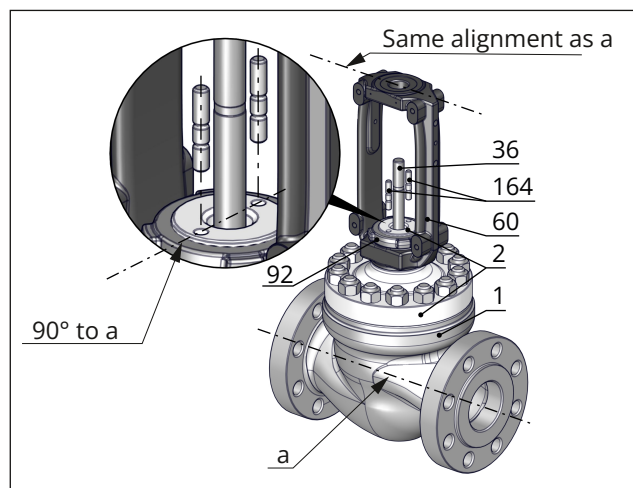

Fig. 33: Alignment of bonnet on the valve body and alignment of yoke on the bonnet
14. Insert the support element (63) (including the pressed-in bushing (7)) upright over the plug stem (36) into the body (1) until it rests on the seating surface inside the body. Use special tool for large nominal sizes.
15. Place a new spiral wound gasket (126) on the support element (63).
16. Insert a new spiral wound gasket (17) into the body (1).
17. Place the valve bonnet (2/21) including yoke (60) from the top over the plug stem (36) on the body (1). Observe the alignment (see Fig. 33). The two boreholes on the top of the bonnet must be at a right angle to the pipeline axis.
18. Press the plug (5) firmly into the seat (4), while fastening down the valve bonnet (2/21) with the body nuts (14). Tighten the body nuts (14) gradually in a crisscross pattern. Observe tightening torques.
9. Place a new spiral wound gasket (17) on the valve body (1). Before inserting the gasket, clean the seating surface and check for damage.
10. Place a new spiral wound gasket (126) on the support element (63) or seat retainer (124). Before inserting the gasket, clean the seating surface and check for damage.
11. Place the valve bonnet (2/21) including yoke (60) from the top over the plug/piston stem (36) onto the body (1). Observe the alignment (see Fig. 33). The two boreholes on the top of the bonnet must be at a right angle to the pipeline axis.
12. Firmly press the plug/piston (5) into the seat (4), while fastening down the valve bonnet (2/21) with the body nuts (14). Tighten the body nuts (14) gradually in a crisscross pattern. Observe tightening torques.
13. Carefully slide the packing parts over the plug/piston stem (36) into the packing chamber using a suitable tool. Refer to the documentation of the spare packing for the correct sequence and alignment of the parts.
14. Screw in and hand-tighten threaded bushing (8).
15. Tighten threaded bushing (8) gradually applying the specified tightening torque.
11. Place a new spiral wound gasket (17) on the valve body (1). Before inserting the gasket, clean the seating surface and check for damage.
12. Place a new spiral wound gasket (126) on the support element (63) or seat retainer (124). Before inserting the gasket, clean the seating surface and check for damage.
13. Place the valve bonnet (2/21) including yoke (60) from the top over the plug/piston stem (36) onto the body (1). Observe the alignment (see Fig. 33). The two boreholes on the top of the
6. Insert the seat retainer (124) (including pressed-in bushing (7)) upright over the plug stem (36) into the body (1) and center them on the seat (4). Use special tool for large nominal sizes. Align the openings of the seat retainer (124) symmetrically with the pipeline axis.
7. Place a new spiral wound gasket (126) on the seat retainer (124).
8. Insert a new spiral wound gasket (17) into the body (1).
9. Place the valve bonnet (2/21) including yoke (60) from the top over the plug stem (36) on the body (1). Observe the alignment (see Fig. 33). The two boreholes on the top of the bonnet must be at a right angle to the pipeline axis.
10. Press the plug (5) firmly into the seat (4), while fastening down the valve bonnet (2/21) with the body nuts (14). Tighten the body nuts (14) gradually in a crisscross pattern. Observe tightening torques.